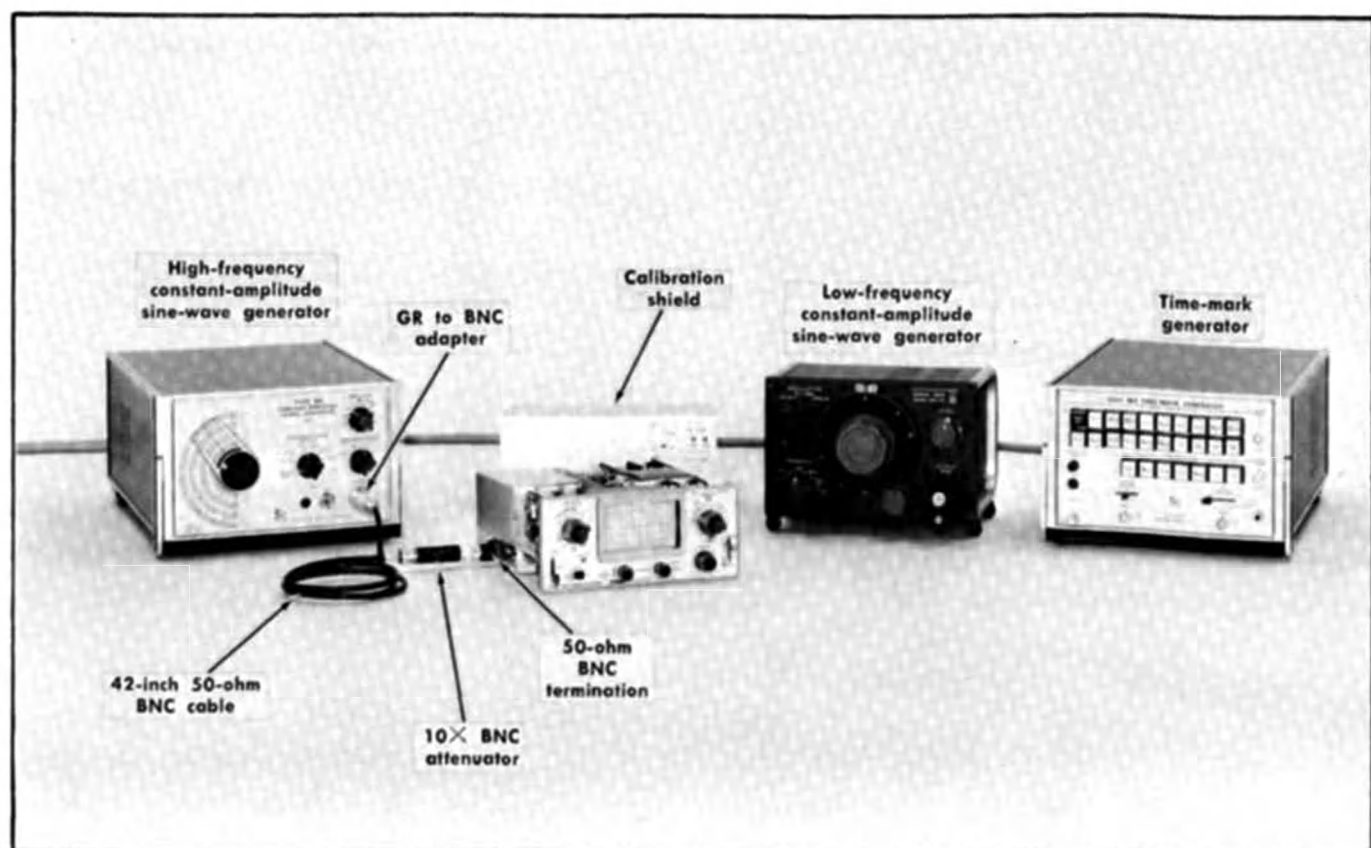

Fig. 6-13. Initial test equipment setup for steps 28 through 38.
- Test equipment setup is shown in Fig. 6-13.